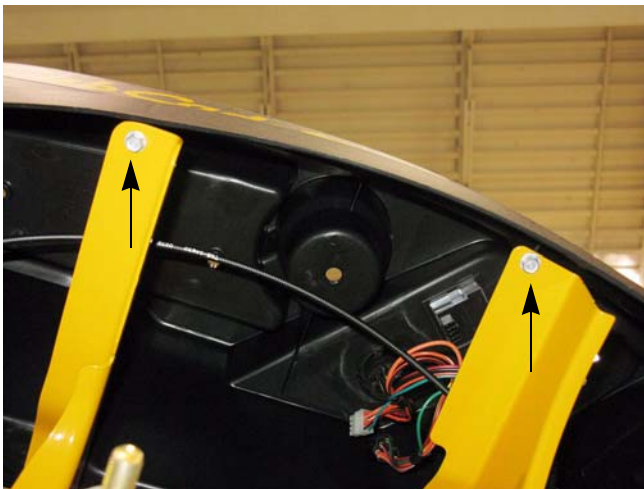

Figure 3.13
9. Remove the two screws from the underside of the right fender using a 3/8" wrench. See Figure 3.13.